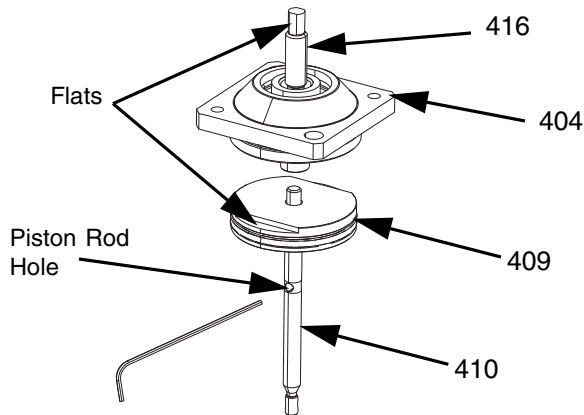

FIG. 16
4. Use a clean cloth to remove all material inside the Air Section (B). Inspect for damage such as scoring marks.
5. For valves with snuff-back tip assemblies (FIG. 16):
- a. Remove the piston rod assembly (409 and 410) from the rod adapter (416) and the air end cap (404). Hold the piston rod (410) with an Allen key through the piston rod hole and unthread the rod adapter (416).
- b. Place a wrench on the piston (409) flats, and an Allen key through the hole in the piston rod (410).
- c. Unthread the piston (409) from the piston rod (410).